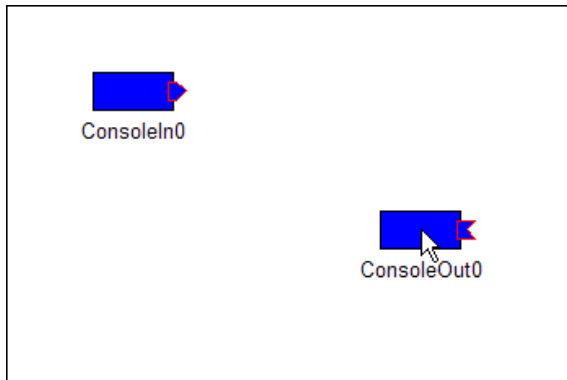

Fig. 4.9: Flipping a component horizontally
**Flipping components horizontally** A middle click on a component will flip the component horizontally, inverting the placement of its InPorts and OutPorts (Figure 4.9).